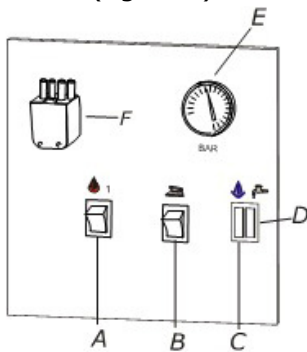
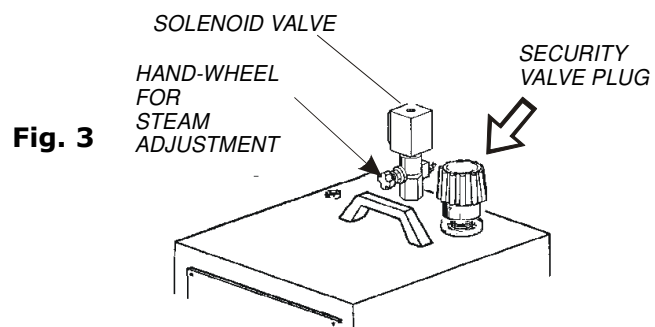
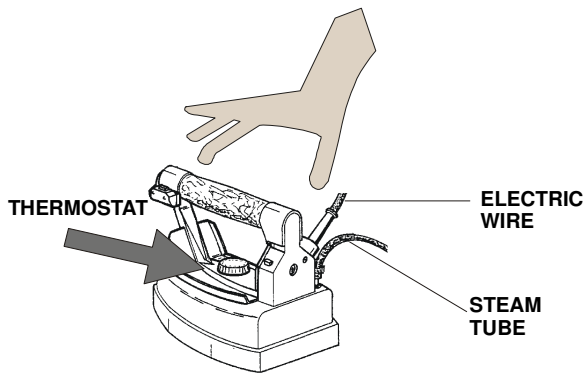
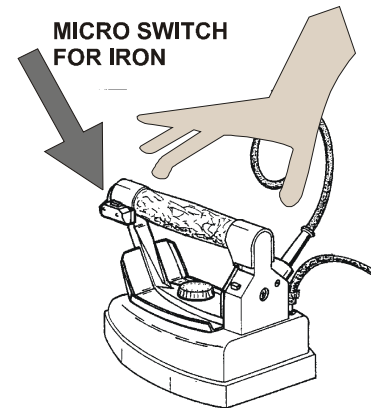

Fig. 2
Fig. 3
Fig. 5
Fig. 6
5. Check that the iron plug is connected to the socket (fig. 2 G)
- Switch on heating element 1 and 2 (fig. 2 A and B). Five minutes later switch on the iron (fig. 2 C) and adjust the thermostat (fig. 5) on "cotton".
N.B. in case you don't need too much steam, it is possible to switch on just A element; on the contrary, when you need more steam, switch on also B (fig. 2).
- Wait for the boiler lamp to switch off (fig. 2 D). Seize the iron by cork handle and press red button 3 or 4 times (fig. 6), so that steam comes out. It is important to make sure it is a saturated steam (by pressing the micro switch with the iron pointed downwards). You can adjust steam flux by turning the hand-wheel placed on the solenoid valve (fig. 3). Now everything is ready for ironing. During ironing operation, the boiler lamp switches on and off (fig. 2 D).
- Empty the boiler only when the pressure does not overcome 0 BAR (fig. 2 B), taking care to open the exhaust tap slowly (fig. 7). For carrying out this operation, wear gauntlets against possible burns.
- Never replace the security valve plug (fig. 3) with other types of plug. N.B. the security valve plug is set on 4,5 BAR and it has the function of a security valve.**
- Run the iron on garments, pressing the iron micro switch for steam. For a better result, set the thermostat (fig. 5) on "cotton".
- For dry ironing it is possible to adjust the thermostat (fig. 5) on different positions according to the type of fabric (look at garment label). For steam ironing, set the thermostat on "cotton" or "flax".
- If you work on a non-vacuum board, some circular water spots might form because of condensed steam. To get round this problem, put a felt under the usual padding and adjust the hand-wheel for steam regulation on minimum (fig. 3).
When the water in the boiler is over, the lamp "no water" switches on (fig. 2 E). So MINI 5 has to be switched off by disconnecting the plug; rotate the valve plug (fig. 3) of 360° and wait for steam to go out completely. Unscrew the valve plug with care and wait a few minutes. Then fill the boiler with water. Screw the valve plug again, connect the plug and wait for the boiler lamp to switch off (fig. 2 D). Now the iron is ready again.
2. Replace the security valve plug every 2500 hrs. of ironing or maximum 3 years (fig. 3).
3. steam tube and iron cable once they seem spoilt (fig. 5).